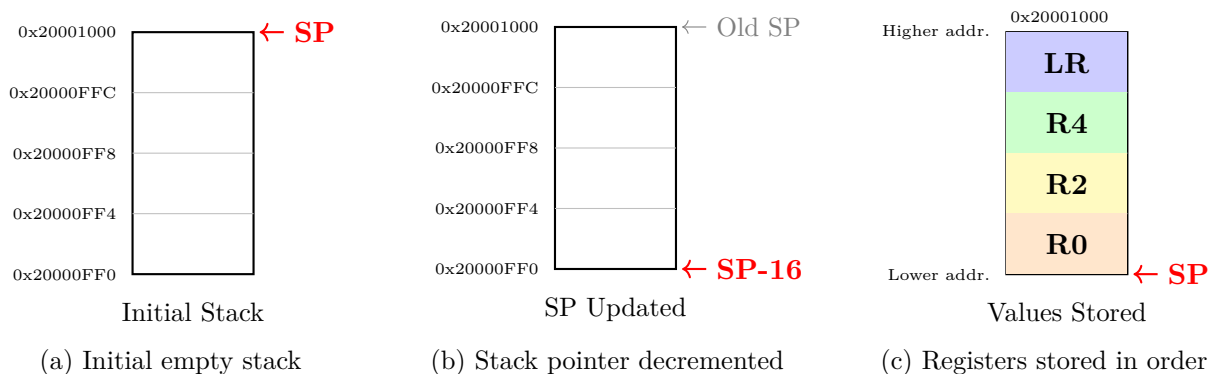

Figure 3.1: Stack operation sequence for `PUSH {R4, R0, R2, LR}`
Explanation: Figure 3.1(a) shows the empty stack with SP at the top (highest address). When PUSH executes, the processor **decrements SP by 16 bytes** to reserve space for four registers (Figure 3.1(b)). Finally, in Figure 3.1(c), values are stored according to the rule: the lowest-numbered register (R0) at the lowest address, then R2 and R4, and the highest-numbered (LR) at the highest address. Because the stack grows downward, SP points to the last written word after the operation.